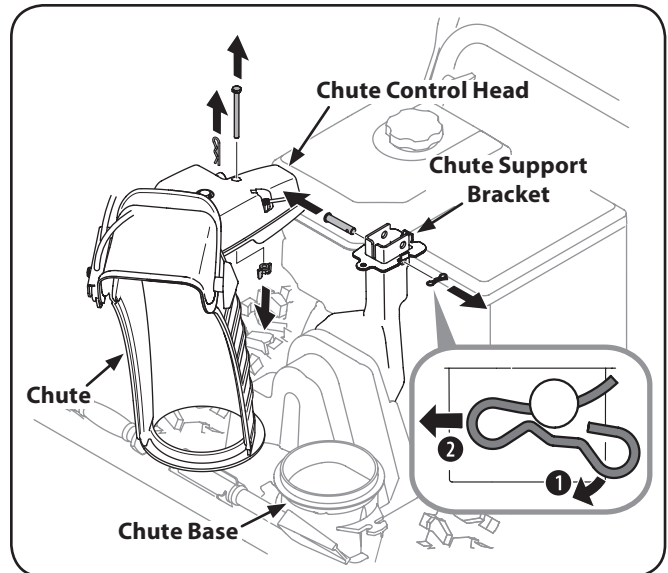

Figure 3-3
1. Remove cotter pin, wing nut and hex screw from chute control head and clevis pin and bow-tie cotter pin from chute support bracket. See Fig. 3-3.
- Finish securing chute control head to chute support bracket with wing nut, clevis pin, and bow-tie cotter pin removed in step 1. See Fig. 3-3.